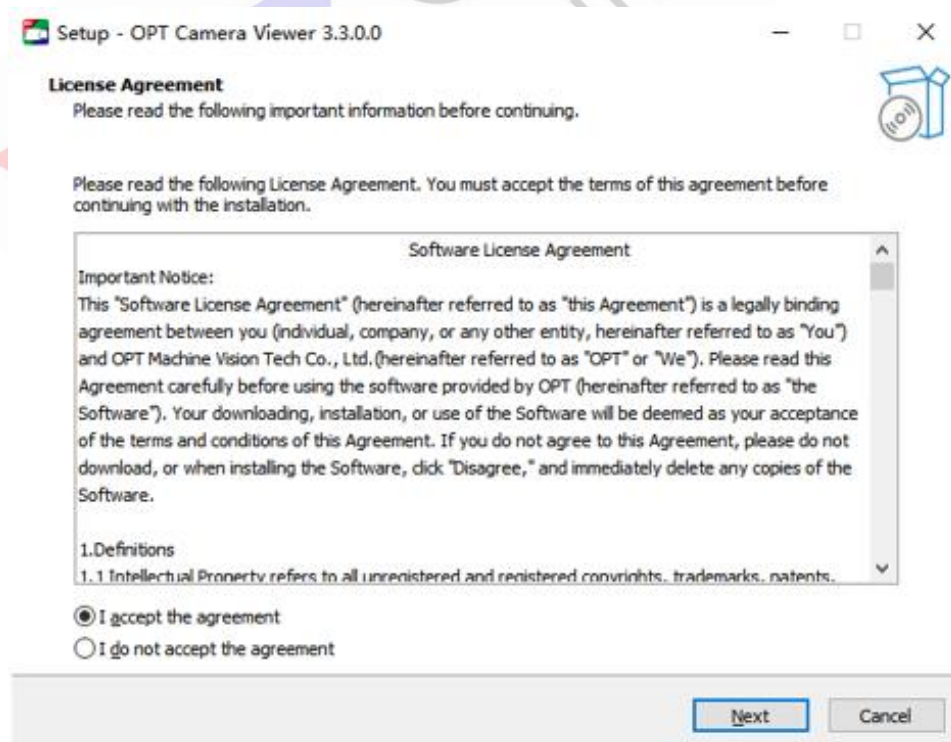

Figure 3-3 Prepare the installation window
4. After the uninstallation is completed, directly enter the installation process, and the license agreement window will pop up as shown in Figure 3-3. After carefully reading the license agreement, confirm the agreed license terms, and then click the next button to continue the installation process.